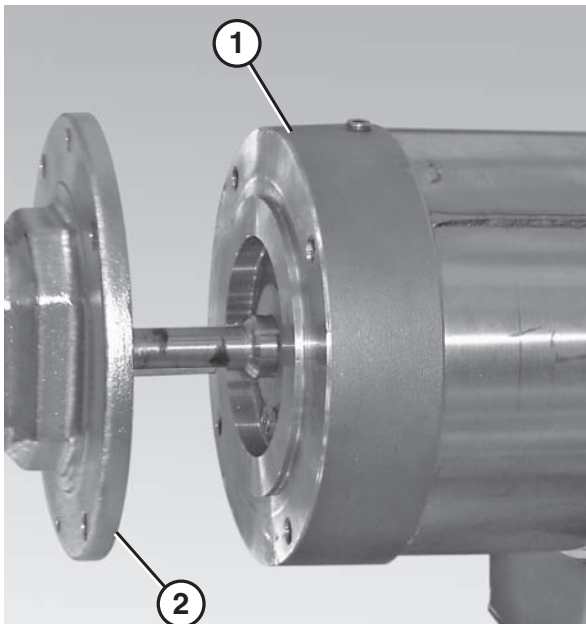

Figure 61
7. Disconnect the motor (**Figure 61, item 1**) from the gear reducer (**Figure 61, item 2**).